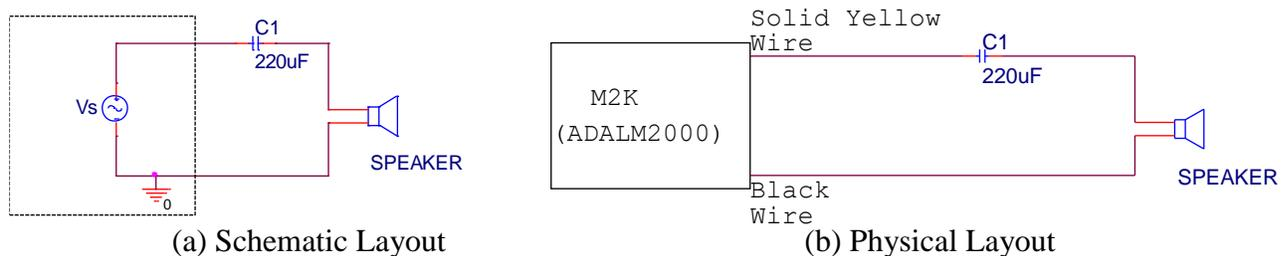

Figure A-8.
- Start by building the circuit using your breadboard.** The circuit you will build is shown on the left in Figure A-8(a). It consists of a sinusoidal source, V_s , a capacitor and a speaker. The $220 \mu\text{F}$ capacitor is in your parts kit. It is an electrolytic capacitor, which means there is a conductive media in the can (as opposed to the ceramic capacitors). On the side of the capacitor, you should see the value written as $220 \mu\text{F}$. The capacitor also has polarity, which means one side should be negative and the other side should be positive. You can identify the negative side by looking for the ‘grayish/whitish’ stripe with a ‘minus’ sign in it. That side should be connected to the speaker. We will violate the polarity rule for electrolytic capacitors but with low voltages over short periods of time. There will be reverse leakage current which in other situations could cause the circuit or the capacitor to fail. The speaker in your parts kit should be large and pretty easy to identify.
- Figure A-8(b) is the physical layout for your breadboard. The sinusoidal source and ground shown in the schematic are provided by the M2K. In effect, everything inside the ‘dashed box’ of the schematic is hidden from you. Connecting the solid yellow wire to the capacitor and the black wire to the speaker implements the sinusoidal source and the ground.